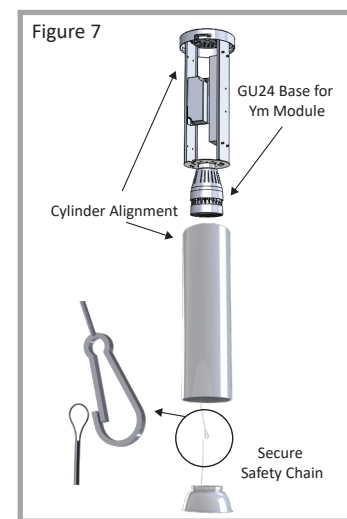

Figure 7
- Use hook at end of cylinder safety chain to secure through eye in reflector safety chain. (Figure 7)
- Align cylinder and top plate for cylinder protrusions to slide into place. Twist clockwise to lock into place. (Figure 7)